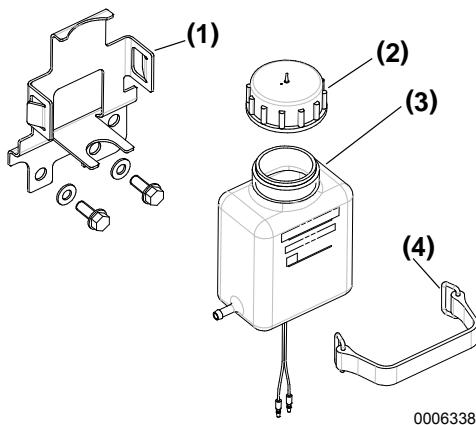

Figure 12
1. Remove the oil reservoir from the bracket (**Figure 12, (4)**).
3. Install the oil reservoir (**Figure 12, (3)**) in the bracket.